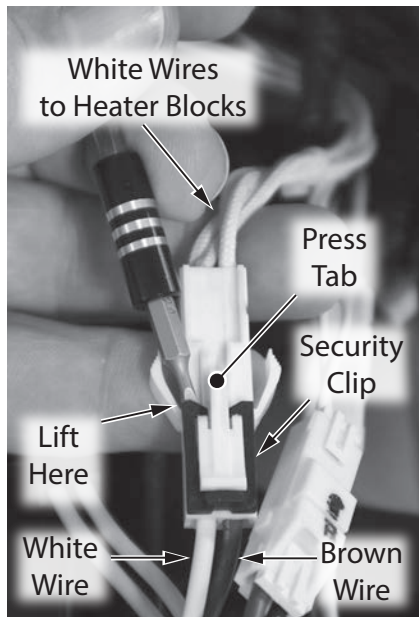

Figure 24 - Wiring security clip removal
- 15** To disconnect, gently remove the security clip with a mini pick or fingernail. Push tab as shown in Figure 24. Separate the harnesses. Place security clip aside in a safe place for reinstallation.